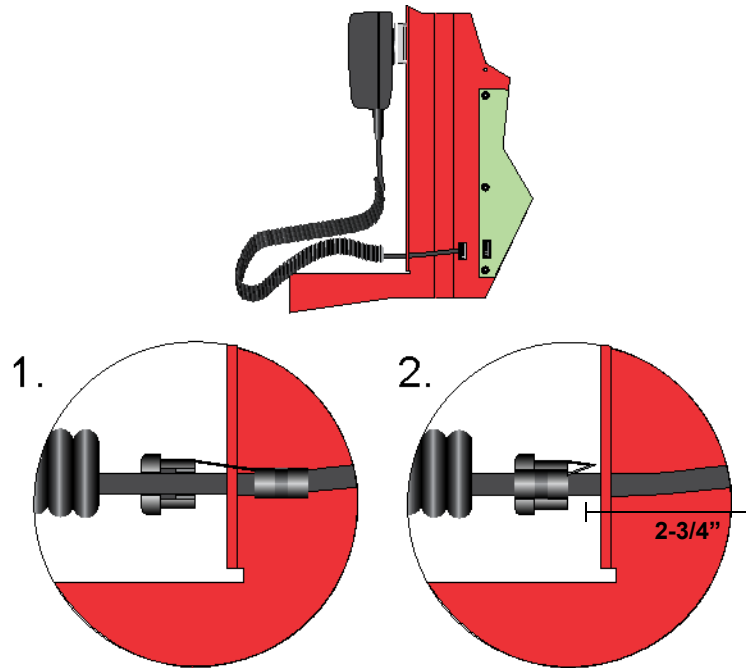

Figure 4-44 Installing Strain Relief Clip
3. Attach strain relief clip to microphone cord. The strain relief clip should have about 2-3/4" of micro phone cord through it. See Figure 4-44.